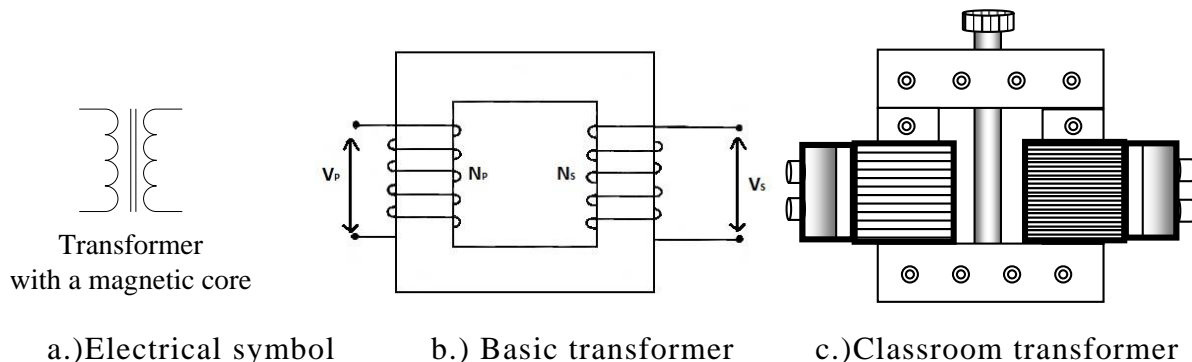

Figure 2.
The transformer (Fig. 2) uses electromagnetic induction to induce an alternating current in a secondary, isolated coil of wire that is different from the alternating current in a primary coil of wire, caused by ordinary means. Recall that any current in a wire causes a magnetic field to surround the wire. When the primary coil is installed on the transformer core, each individual turn of wire in the primary coil causes a magnetic field to be present in the transformer core. The transformer core is a very good conduit for the magnetic field compared to the surrounding air, so nearly all of the magnetic field will be contained in the transformer core. In order for a current to be induced in the secondary coil, the magnetic field must change. The geometry of the primary and secondary coils, including the number of turns in each is fixed. The coils fit tightly around the transformer core as well so neither the coil sizes nor their orientation can be changed. We will use the signal generator to create a high frequency sine wave (AC) current in the primary coil, so the magnetic field in the transformer core will change, varying the magnetic flux through the secondary coil thus inducing an AC current of the same frequency in the secondary coil. Since each turn in the secondary coil produces an  $\mathcal{E}mf$ , the secondary voltage is related to the primary voltage as the number of turns in each coil.